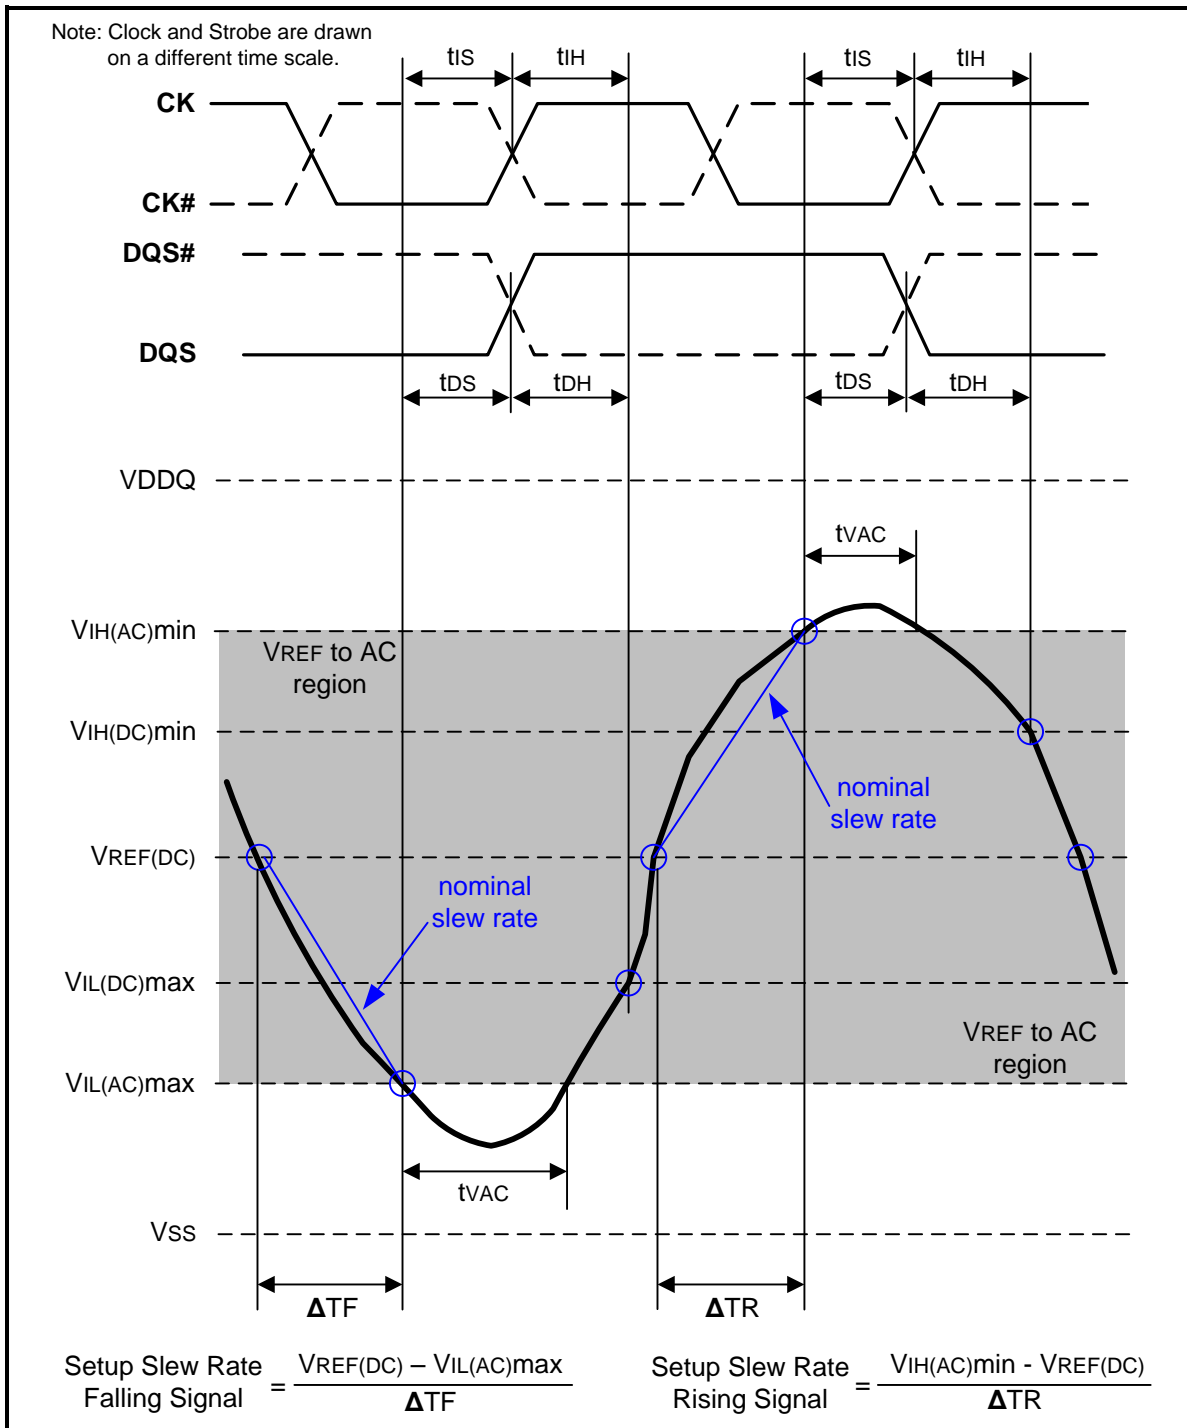
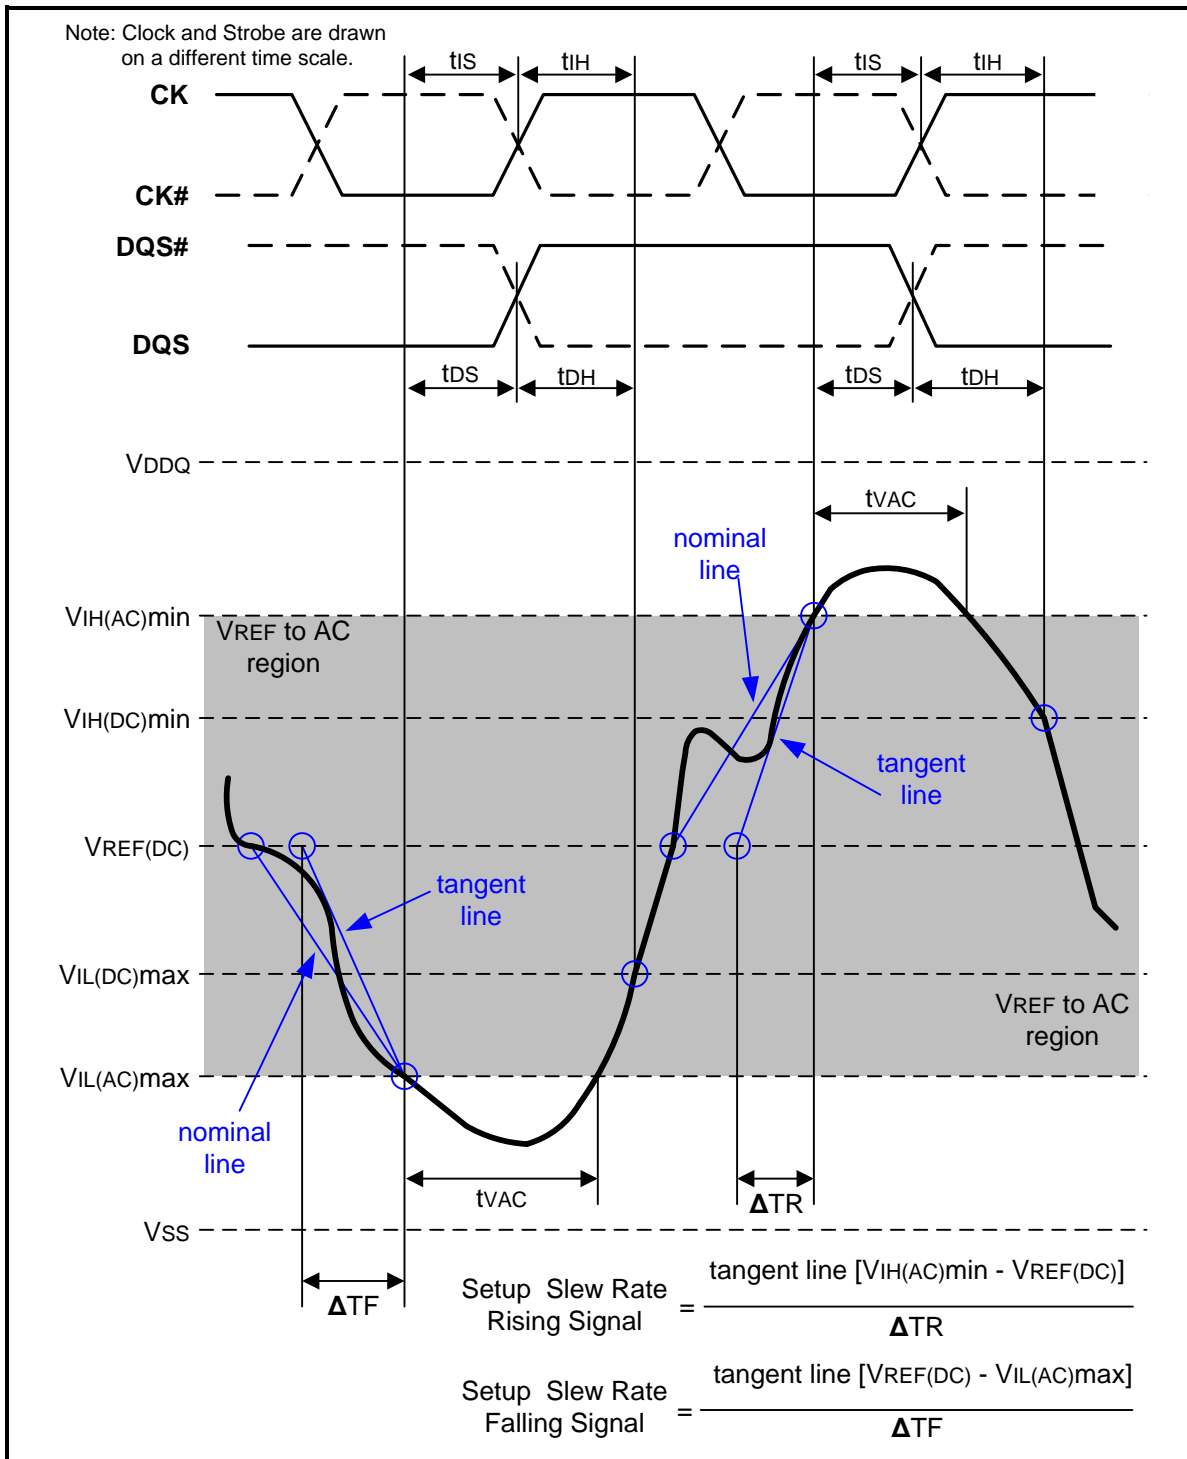

Figure 107 – Illustration of nominal slew rate and t_{VAC} for setup time t_{DS} (for DQ with respect to strobe) and t_{IS} (for ADD/CMD with respect to clock)
Figure 109 – Illustration of tangent line for setup time tDS (for DQ with respect to strobe) and tIS (for ADD/CMD with respect to clock)
Setup (t_{IS}) nominal slew rate for a rising signal is defined as the slew rate between the last crossing of $V_{REF}(\text{DC})$ and the first crossing of $V_{IH}(\text{AC})_{\text{min}}$. Setup (t_{IS}) nominal slew rate for a falling signal is defined as the slew rate between the last crossing of $V_{REF}(\text{DC})$ and the first crossing of $V_{IL}(\text{AC})_{\text{max}}$. If the actual signal is always earlier than the nominal slew rate line between shaded 'VREF(DC) to AC region', use nominal slew rate for derating value (see Figure 107). If the actual signal is later than the nominal slew rate line anywhere between shaded 'VREF(DC) to AC region', the slew rate of a tangent line to the actual signal from the AC level to $V_{REF}(\text{DC})$ level is used for derating value (see Figure 109).
Setup (tDS) nominal slew rate for a rising signal is defined as the slew rate between the last crossing of VREF(DC) and the first crossing of VIH(AC)min. Setup (tDS) nominal slew rate for a falling signal is defined as the slew rate between the last crossing of VREF(DC) and the first crossing of VIL(AC)max (see Figure 107). If the actual signal is always earlier than the nominal slew rate line between shaded 'VREF(DC) to AC region', use nominal slew rate for derating value. If the actual signal is later than the nominal slew rate line anywhere between shaded 'VREF(DC) to AC region', the slew rate of a tangent line to the actual signal from the AC level to VREF(DC) level is used for derating value (see Figure 109).